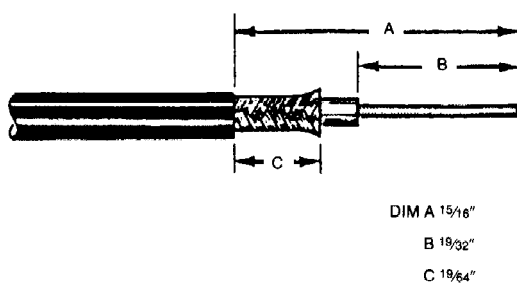

Figure 14.
- Prepare cable to strip dimensions per Figure 14, which is also marked on the hand tool.